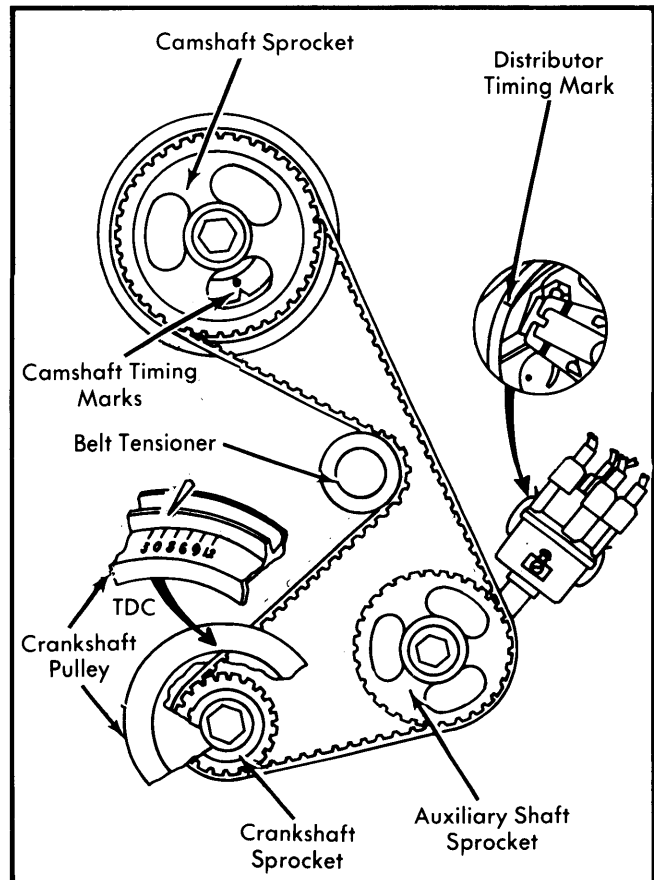

Fig. 3 Location of Timing Marks
2) Position crankshaft sprocket and camshaft sprocket as shown in Fig. 3. Remove distributor cap and set rotor to No. 1 firing position by turning auxiliary shaft. Install drive belt over crankshaft sprocket and then counterclockwise over auxiliary and camshaft sprocket. Align belt fore and aft on sprockets.